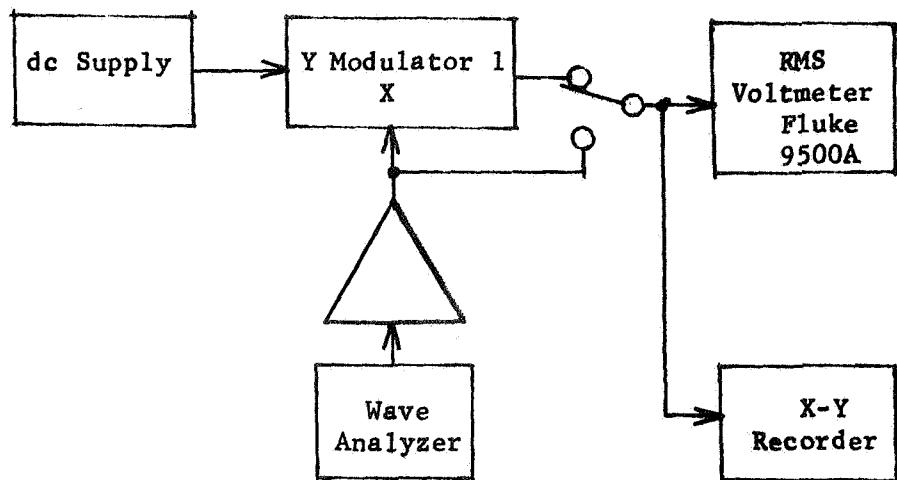

Figure 2.6
- A. Use test setup shown in Figure 2.6 with modulator 1.